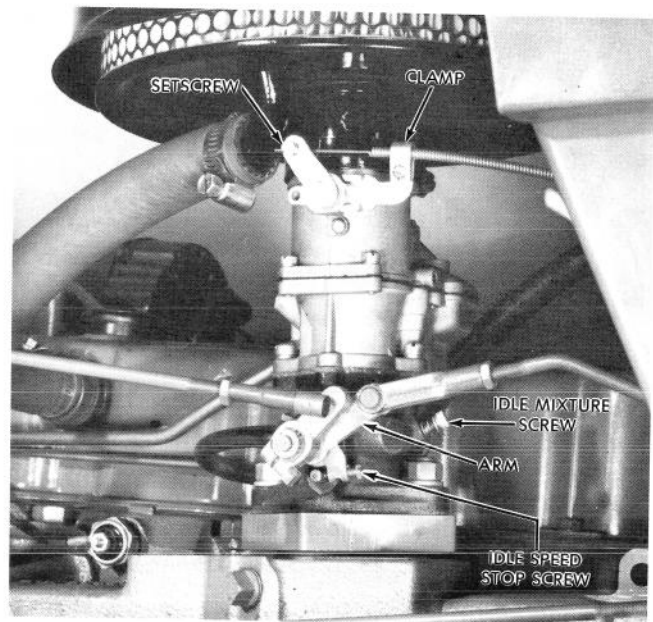

Figure 47
With the accelerator pedal fully depressed, the carburetor throttle butterfly should be fully open. If it is not, refer to Figure 47 and proceed as follows.
**NOTE:** Figure 47 shows the optional governor linkage installed).
**NOTE:** It is possible for the arm to go over-center in the idling position. Adjust the link if necessary to locate the arm as shown in Figure 47.
## CHOKE WIRE ADJUSTMENT (Figure 47)